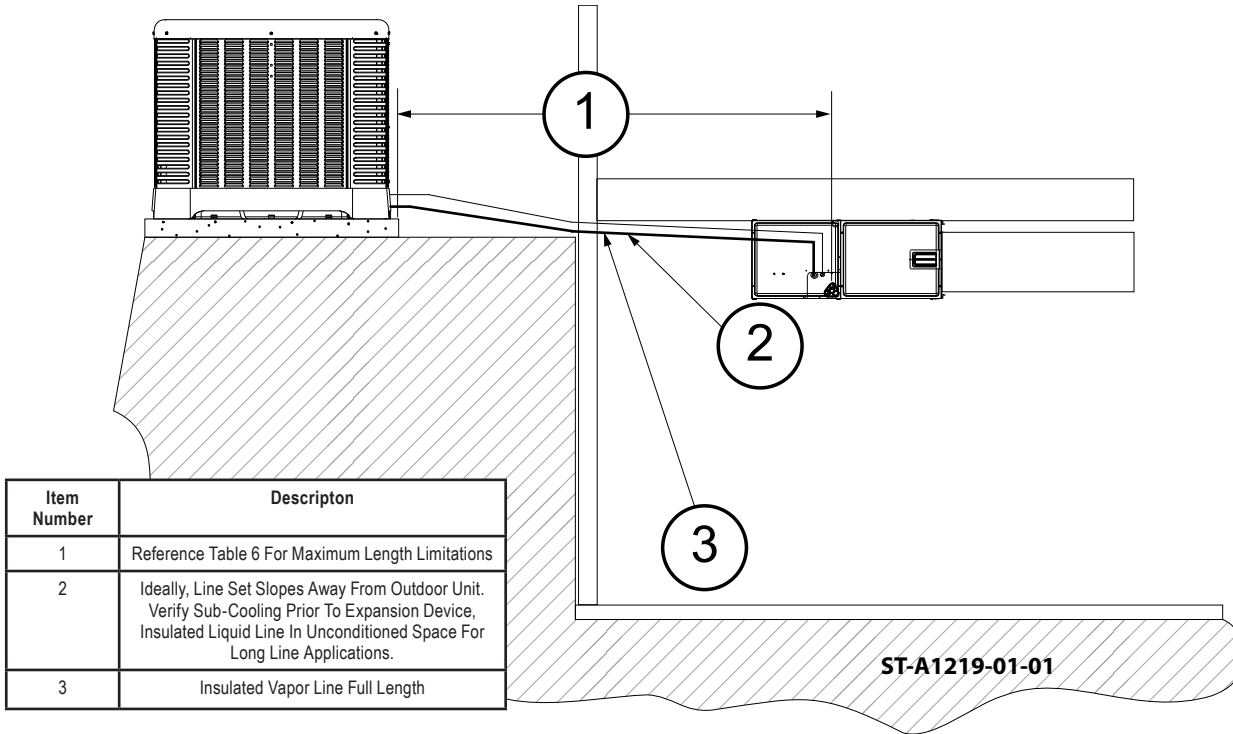

Figure 8: Slop Vapor Line Toward the Indoor Unit
3. Vapor line should slope toward the indoor unit. (Reference Figure 8)